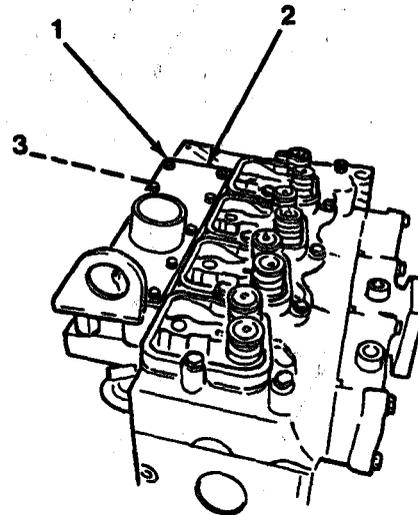

Figure 6-1
1. Install gasket (3) and coverplate (2, Figure 6-1).
2. Lubricate eight capscrews (1) with Loctite 592 and install on coverplate (2).
4. Torque 10 capscrews (1) to 18 lb-ft (24 N•m) after high-pressure fuel injection lines are installed.